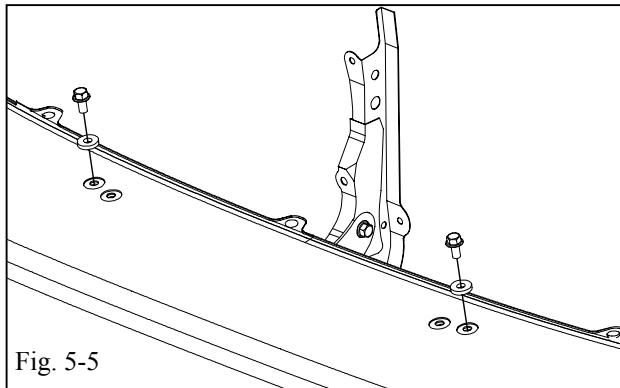

Fig. 5-5
- (l) Hand tighten 2 bolts and washers to the outside holes on the top of the bumper. (Fig. 5-5)